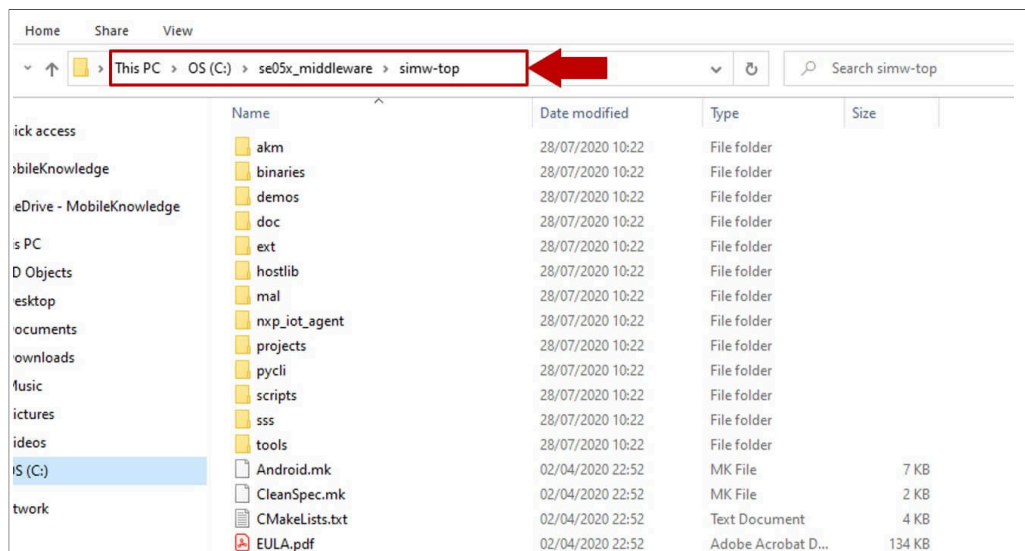

Figure 30. Unzip se05x middleware
3. Unzip the Plug & Trust middleware inside the **se05x_middleware** folder. After unzipping, you will see a folder called **simw-top**. The contents of the **simw-top** directory should look as shown in Figure 30: